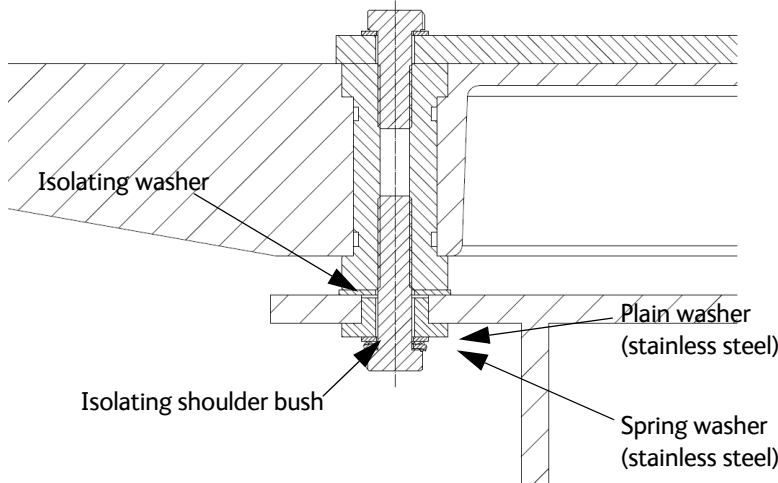

Figure B-7: Isolation of the ADU from the mounting base
4. If the ADU is to be isolated from the mounting base, use shoulder bushings and washer, see figure B-7, *Isolation of the ADU from the mounting base* on page B-10.